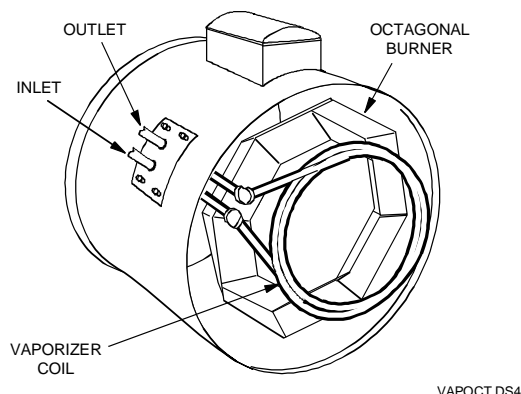

Fig. 7-2 Octagonal burner and vaporizer
Starfire burner models only), to provide clearance. If there has been significant abrasion of the steel vaporizer pipe, it must be replaced. See Figs. 7-2 and 7-3 for vaporizer and related components.
**Stainless Steel Octagonal Burners (CF/AB-320):** If the gas line is very cold or "frosted," ensure that vaporizer coil is centered with the burner. If gas line is too hot to touch, locate vaporizer slightly off center to cool it, by manually forcing the coil up or down. Recheck fuel line for leaks following adjustment. See Fig. 7-2.